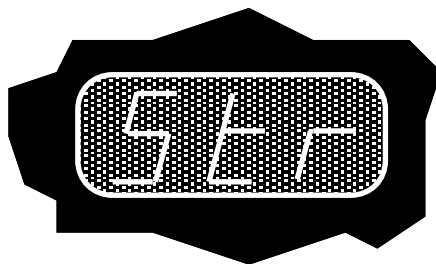

Figure 2-13. "Str" appearing on LED display, initializing Start Time Limit
2. Turn power OFF to the unit. Then turn back ON while pressing the "DOWN" button. This sets the limit to 2 times the actual amount of start time once the press is first started. This value cannot be changed manually. Once "Str" appears on the LED display, release the button. (Figure 2-13)